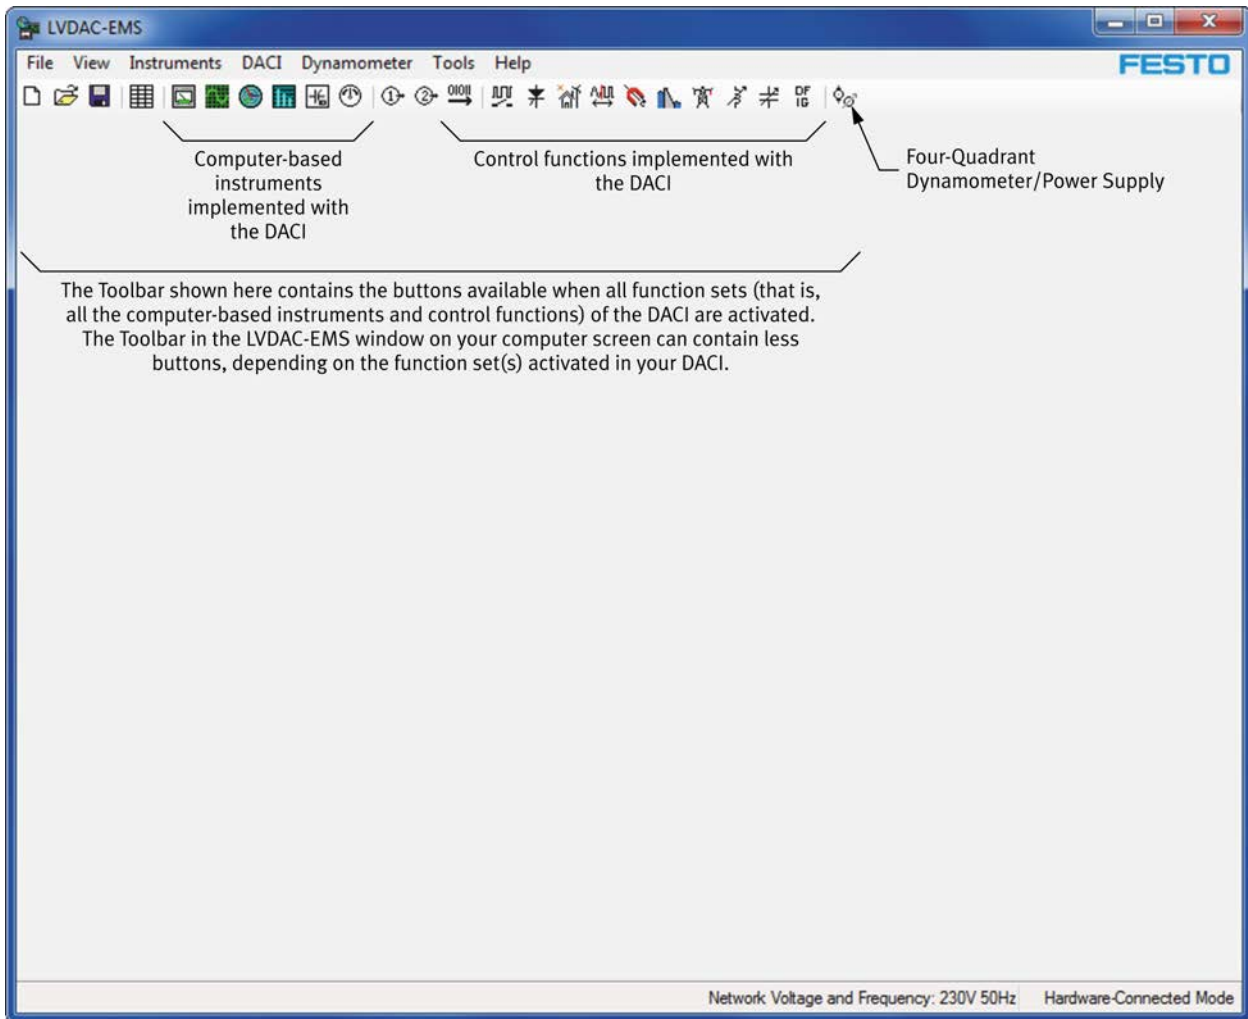

Figure 5: Main window of the LVDAC-EMS software.
13. In the LVDAC-EMS Start-Up window, select the Network voltage and frequency that correspond to the voltage and frequency of your local ac power network, then click the OK button. This closes the LVDAC-EMS Start-Up window and brings up the LVDAC-EMS main window (see Figure 5).